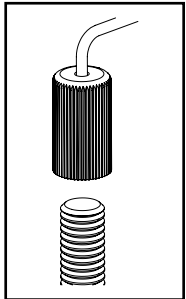

Fig. 1
1. Shut off power to the outlet box (A).
2. Attach the Ceiling Plate (B) to the outlet box (A), secure with outlet box screws (C).
3. Connect safety cables (E) to ceiling plate (B) and fixture (F) by screwing the finials onto the threaded studs (Fig. 1).
- a. Connect the LED driver's (D) live wire to the live outlet box wire.
- b. Connect the LED driver's (D) neutral wire to the neutral outlet box wire.
- c. Connect the fixture's ground wire (green or uncoated) to the ground outlet box wire. If no ground is present in outlet box, connect fixture's ground wire to the ceiling plate (B) using the green screw (included).
- d. Carefully place connections in outlet box (A).